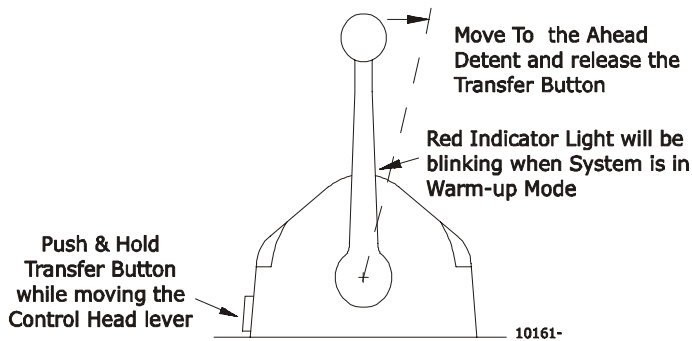

Figure 4: Control Head Warm-up Mode
A) At the Station-in-Command, ensure that the Control Head lever is in the Neutral detent position (refer to Figure 4):